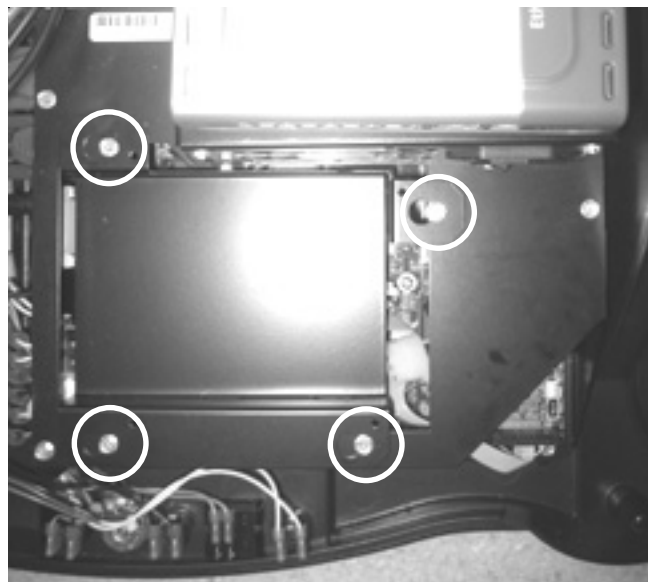
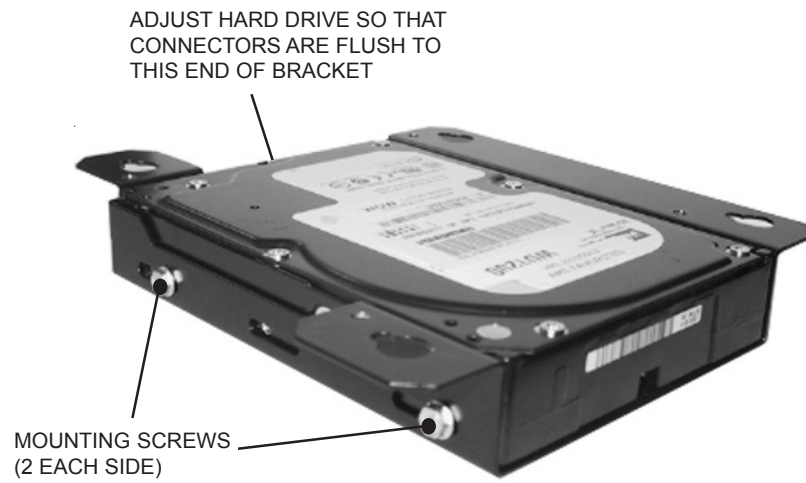

FIGURE 3-2 - FOUR SCREWS SECURING HARD DRIVE TRAY
FIGURE 3-3 - HARD DRIVE MOUNTED TO TRAY
4. Loosen the 4 screws securing the hard drive tray, slide it to the right, and remove the tray (see Figure 3-2). Using the 4 screws taped to the tray or found in the Handy Case, mount the hard drive as shown in Figure 3-3.